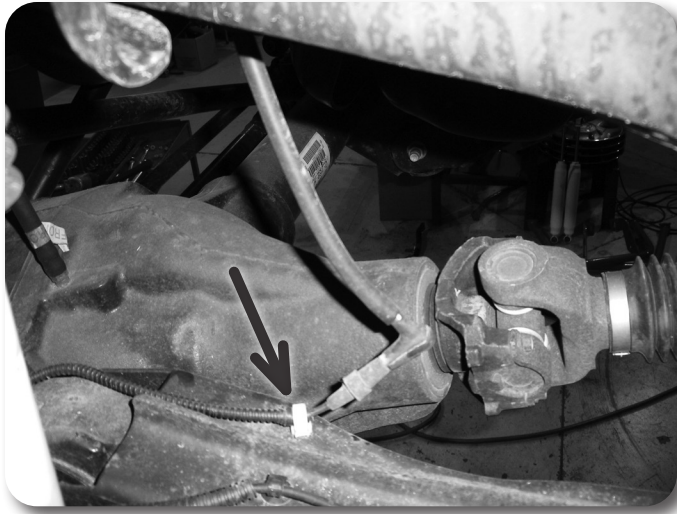

Figure 3A
7. Remove the front axle hub vacuum lines retaining clips from the axle/radius arm. **Figure 3A,B**